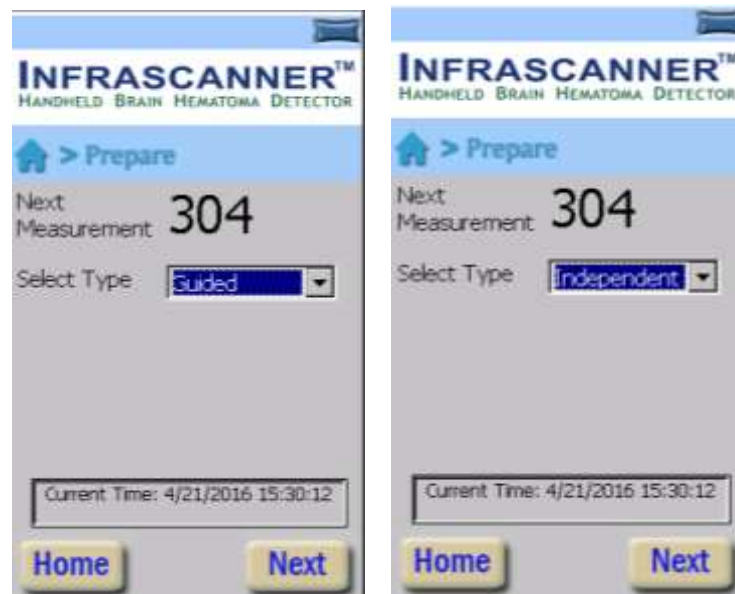

Figure 3-7: Select Study ID Screen
3. The Select Study ID screen (Figure 3-7) displays the next sequential number of the measurement. Please record this number (or the patient ID number) in your notes, if you are interested in a later analysis of the data. If the Infrascanner clock was reset, due to battery depletion or removal, a yellow triangle will ask the user to set the Infrascanner real-time clock.
4. Select Guided Mode on the Select Study ID screen (Figure 3-7). Guided Mode helps the user through the measurement process by displaying tutorial screens and guiding the user to repeat measurements when a potential hematoma is detected.
4. The Select Study ID screen (Figure 3-7) allows the user to select Independent Mode or Guided Mode. Select Independent Mode. Guided Mode helps the user through the measurement process by displaying tutorial screens and guiding the user to repeat measurements when a potential hematoma is detected. Guided mode is intended for novice users (see Section 3.3). Once the user is more experienced with the use of the Infrascanner, Independent Mode can be selected.